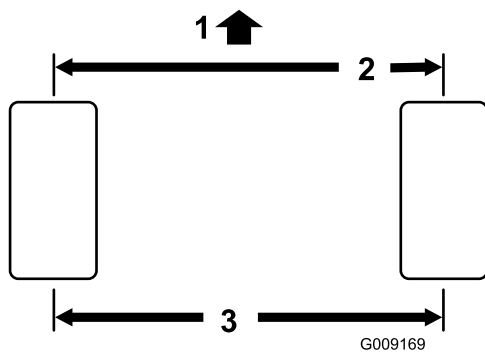

Figure 46
2. Measure the center-to-center distance (at axle height) at the front and rear of the steering tires (Figure 46). The measurement must be within 0 ± 3 mm (0 ± 0.12 inch) at the front of the tire then at the rear of the tire. Rotate the tire 90 degrees and recheck the measurement.